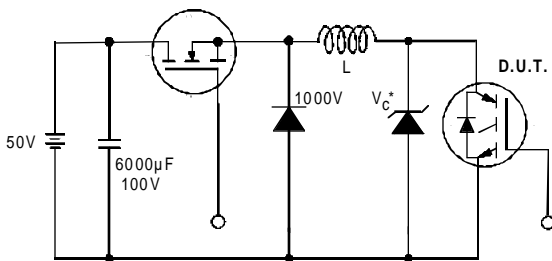

Figure 19. Clamped Inductive Load Test Circuit
② $V_{CC}=80\%(V_{CES}), V_{GE}=20V, L=10\mu H, R_G=23\Omega,$ (See fig. 19)
④ Pulse width 5.0 μs , single shot.
③ Pulse width $\leq 80\mu s$; duty factor $\leq 0.1\%$.
- ② $V_{CC}=80\%(V_{CES})$, $V_{GE}=20V$, $L=10\mu H$, $R_G = 10\Omega$ (Figure 19)
- ③ Pulse width $\leq 80\mu s$; duty factor $\leq 0.1\%$.
- ④ Pulse width $5.0\mu s$, single shot.